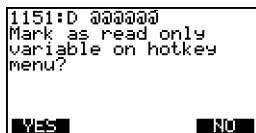

FIGURE 1-37. Marking a Read-Only Hot Key Option.
5. If the message “Mark as read only variable on Hot Key menu?” **Figure 1-37** displays, press **YES** (F1) to mark the variable for this option as read-only, or press **NO** (F4) to mark the variable as read/write. For example, marking the tag number of a device to be read-only allows you to view, but not change, the tag number through the Hot Key menu.